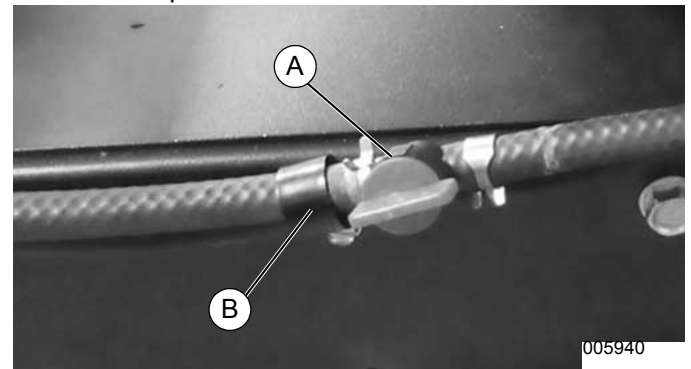

Figure 4-8. Fuel Shut-Off Valve and Fuel Line
1. See Figure 4-8. Turn fuel shut-off valve (A) to the closed position